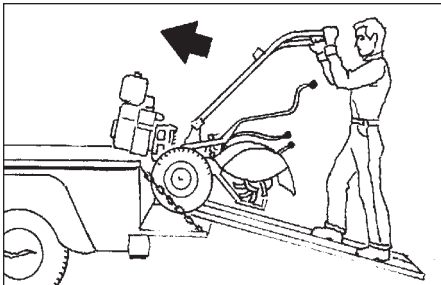

Figure 4-7: To go up ramps, use FORWARD drive.
5. Shift the Wheels/Tines/PTO Lever (Figure 4-2) into FORWARD position and follow the tiller up the ramps (Figure 4-7). Check the wheels as you move the tiller forward. Ensure that they move up the center of each ramp.